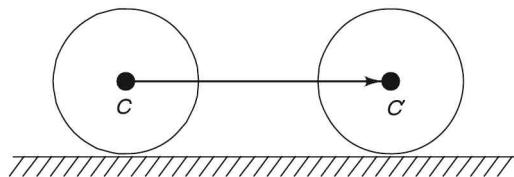

FIGURE 13.10 Rolling of a cylinder.
- (c) Rolling of a cylinder (Figure 13.10) or disc on a flat surface.